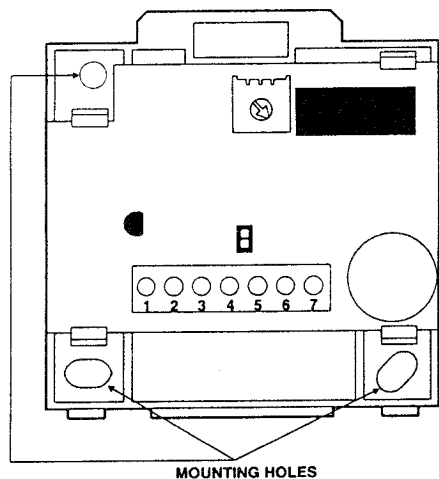

Figure 2. Mounting Hole Locations
- 2) Place the ESM on the wall at the desired location and mark the upper-left and lower-right mounting holes (see Figure 2).